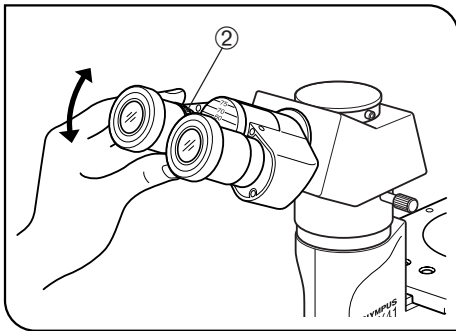

Fig. 13
2 Adjusting the Diopter (Figs. 13 & 14)
2. While looking through the left eyepiece with your left eye, turn only the diopter adjustment ring ② to focus on the specimen. (Fig. 13)